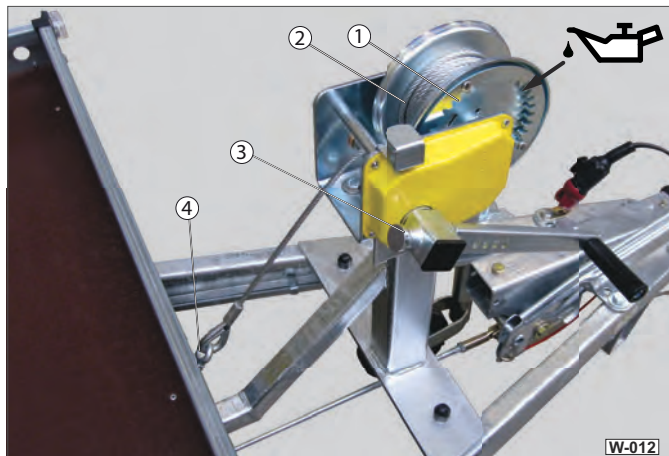

Fig. 12 Checking / greasing the cable winch
- ▶ Release the hook (Fig. 12 /4) from the eyelet.
- ▶ Pull the wire cable (Fig. 12 /2) all the way out.
- ▶ Check the toothed segments (Fig. 12 /1) for damage.
- ▶ Check the drums (Fig. 12 /2) for deformation / wear.
- ▶ Plug the crank handle (Fig. 12 /3) onto the base and check that it locks into place.